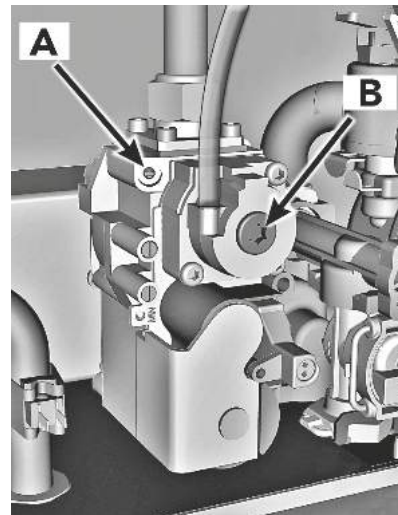

fig. 28 - Opening the casing
3. Now adjust the **Throttle setting** (fig. 28 - screw **A**) until the CO₂ is at the correct **SETTING LEVEL** (see table 4), confirm that the CO/CO₂ ratio is within limits.
2. Now adjust the **offset pressure setting** (fig. 28 - cup **B**) until the CO₂ is at the correct **SETTING LEVEL** (see table 5), confirm that the CO/CO₂ ratio is within limits.